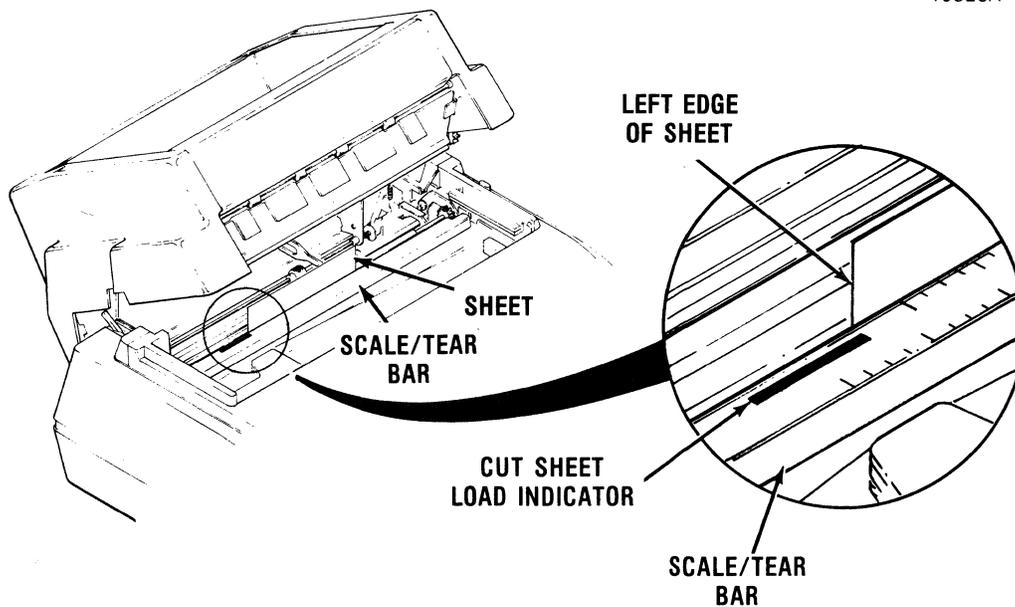

Figure 3-3 Sheet Alignment; Horizontal Adjustment
4. Lift the feeder body up and note how the left edge of the sheet that is in the printer lines up with the right edge of the cut sheet load indicator on the printer scale/tear bar (see Figure 3-3).